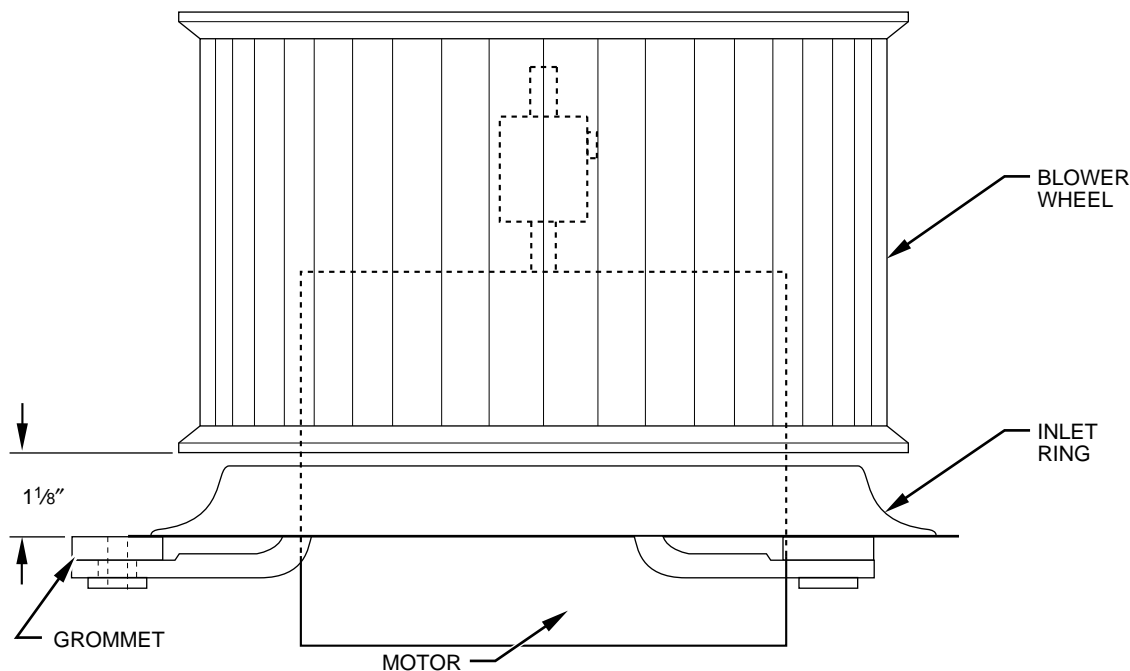

Fig. 34—FF1A/FF1B/FF1C Motor, Inlet Ring, and Blower Wheel Assembly
- NOTE:** If previous shaft was not marked or if replacing previous motor, set blower wheel position by sliding blower wheel along motor shaft to 1-1/8 in. above rubber grommets. (See Fig. 34.)